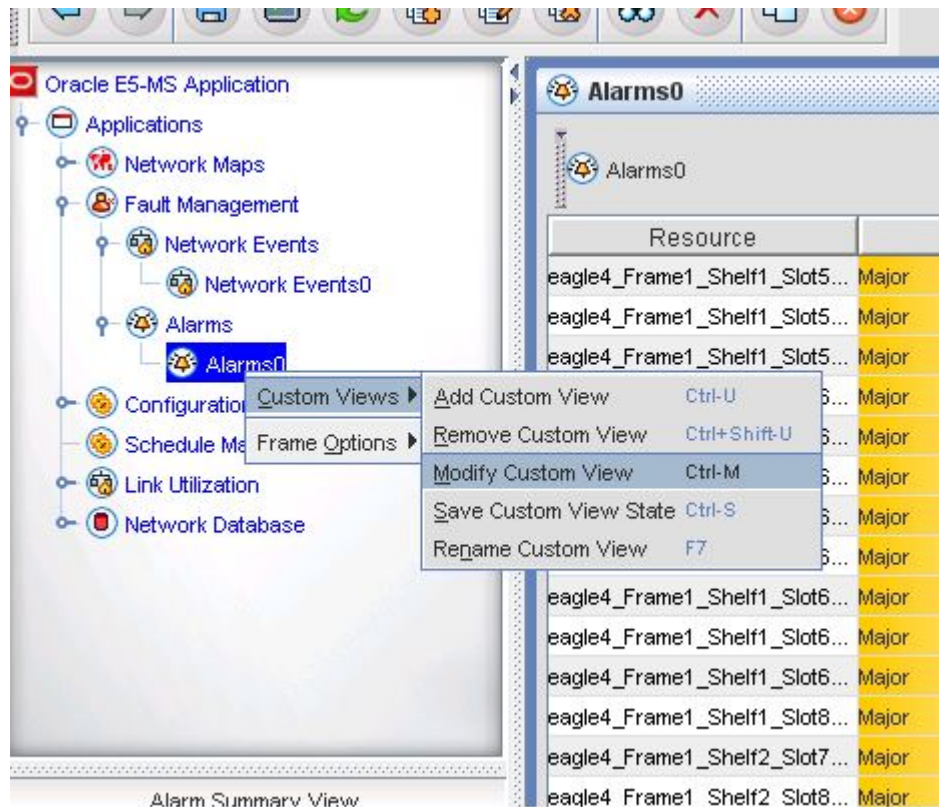

Figure 109: Modify Custom View By Using Left Navigation Pane
- Right-click on the custom view node under the Network Events or Alarms node in the left navigation pane, and choose **Custom Views > Modify Custom View** as shown in Figure 109: Modify Custom View By Using Left Navigation Pane.